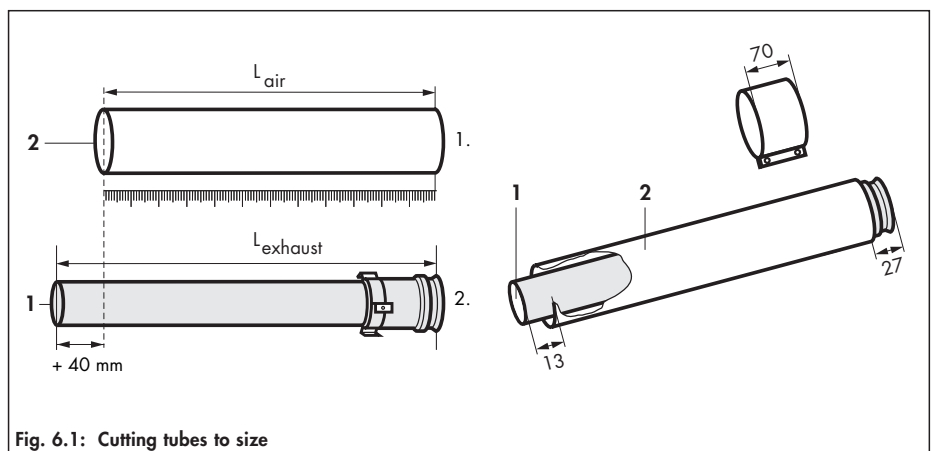

Fig. 6.1: Cutting tubes to size
- When using 2 x 87° elbows follow fig. 6.1 to fig. 6.3 to avoid obstructions on outer wall.